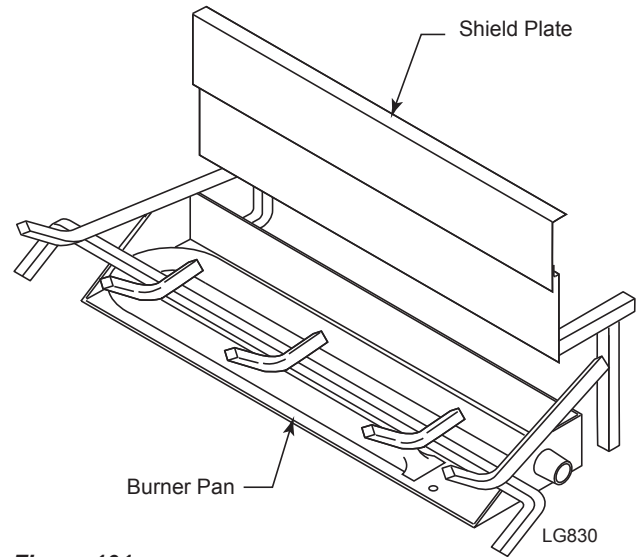

**Figure 101 -
1. Slide shield plate behind burner pan. *Figure 101*